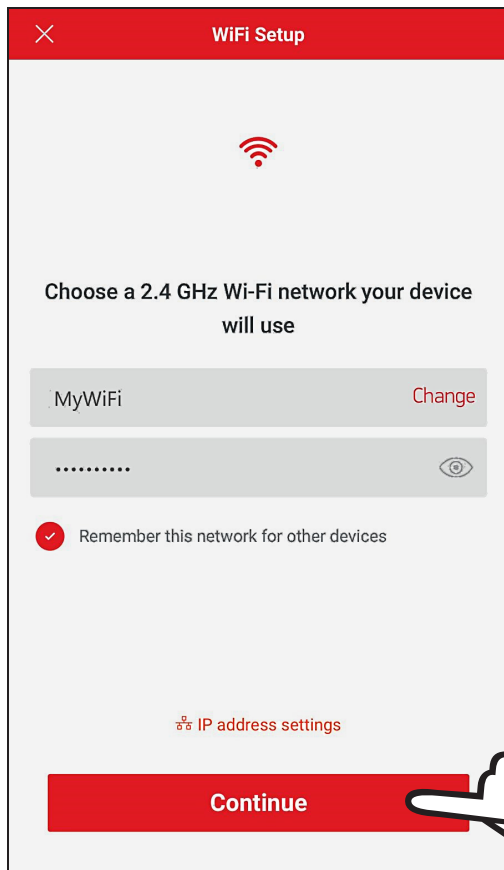

Figure 87. Wi-Fi Setup
1. The "Wi-Fi setup" screen will appear. Select or enter the Wi-Fi network you want your unit to be connected to and enter the network password. See **Figure 87**.